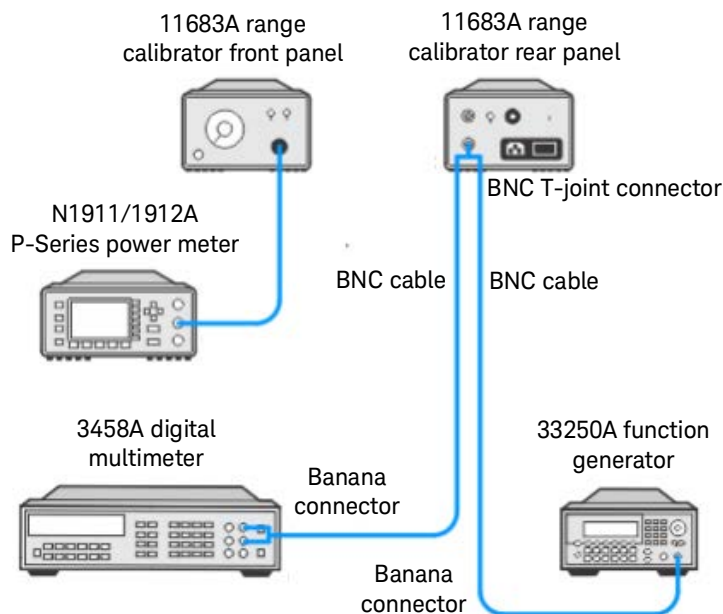

Figure 2-6 Absolute accuracy test setup
- 1 Connect the equipment as shown in Figure 2-6.